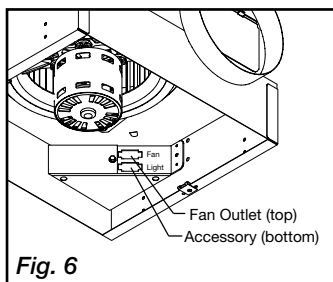
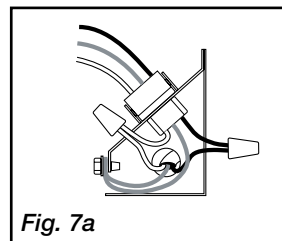
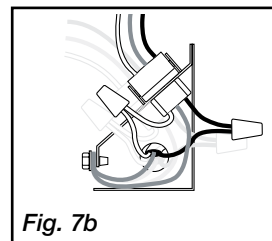

Fig. 6
Fig. 7a
Fig. 7b
- Remove wiring cover. If fan/accessory combination is being used, make sure the fan plug is connected to the fan receptacle and the accessory plug is connected to the accessory receptacle, shown in Fig. 6. Using proper wire connectors, wire the fan as shown in Fig. 7a. For wiring of light proceed to Fig. 7b.